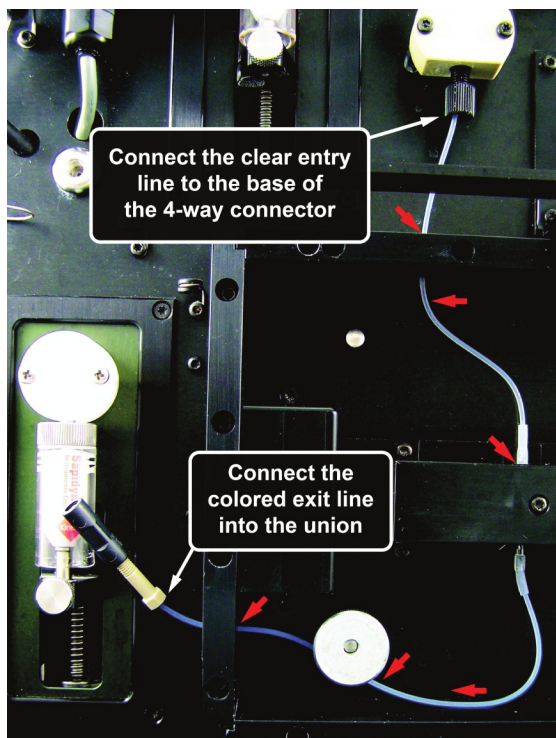

Figure 1: Installing a new Flow Cell into the Instrument.
- Route the clear *Entry Line* upwards through the *O-ring* (located on top of the *Optics House Frame*) and attach it to the bottom of the 4-way *Connector* using a *White Ferrule* (347016) with a *1/4-28 Black Nut* (346001) (**Figure 1**).
- Slide the colored *Exit Line* through the *O-ring* (located on the left side of the *Optics Housing Frame*) and connect it into the bottom of the *Union* using a *10-32 Tan Nut* (346201) and a *Tan Ferrule* (347116) (**Figure 1**).